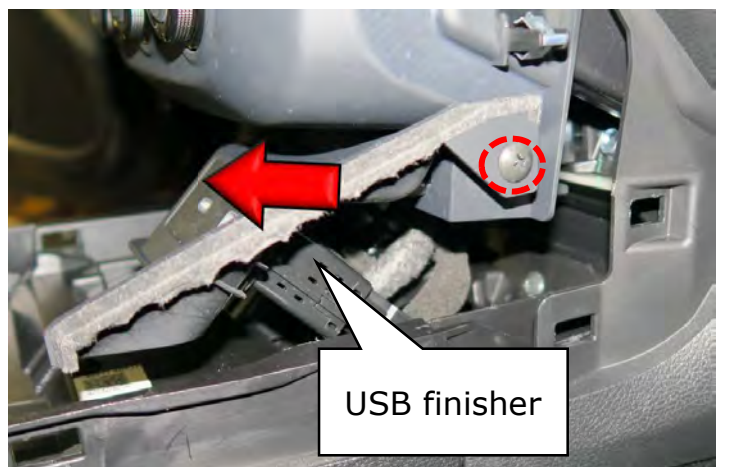

Figure 30
31. Disengage the USB finisher. (Figure 30)
- Remove the (1) screw from the RH side of the console tray (USB) finisher.